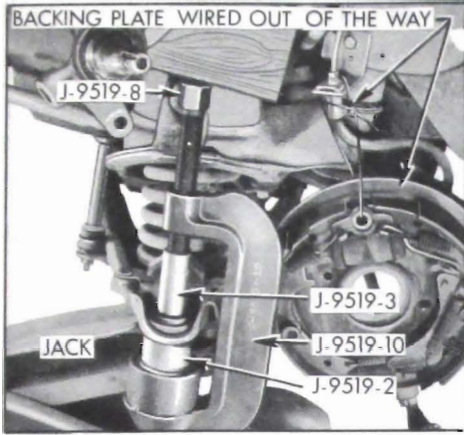

Figure 7-15—Lower Ball Joint Remover Tool in Place
2. Remove the brake backing plate. If the backing plate is wired carefully out of the way as shown in Figure 7-15, there will be no need to disconnect the brake hose.
6. Install Lower Ball Joint Remover and Installer J-9519 as shown in Figure 7-15. Note that the larger O.D. portion of Detail J-9519-2 is positioned in J-9519-10.